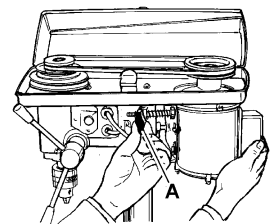

fig. 6
- 6.3.1. Open the pulley case and loosen the belt tension lock screws (fig.6.A) - one either side of head.
- 6.4.1. With the belt tension lock screws (fig.6.A) loose and using hand pressure on the adjusting handle (fig.5.C), set tension so that belt give is no more than 1/2" (13mm). Tighten lock screws.